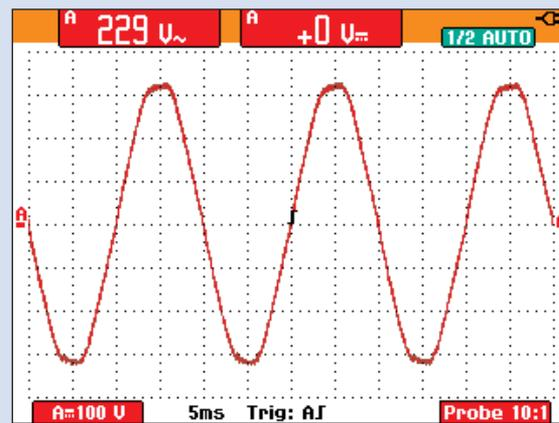

Figure 8. Signal visible, readings OK.
**A:** Actually, it's not a DC signal at all. Slowing down the time base reveals that the screen in question was 'zoomed in' on the zero crossing of a signal. The signal is even in overload when looking at a complete cycle. Changing the attenuator range shows the complete signal, and the readings become available (see Figure 8).